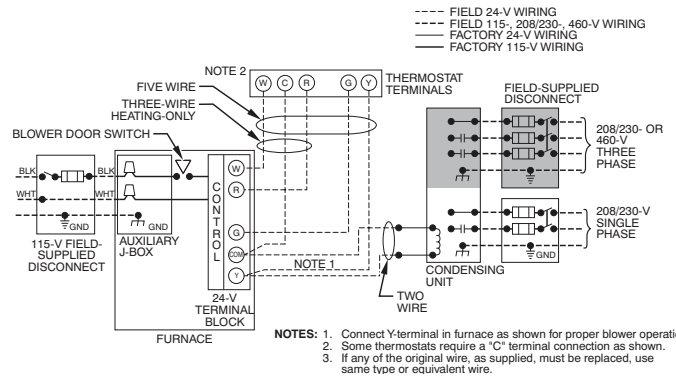
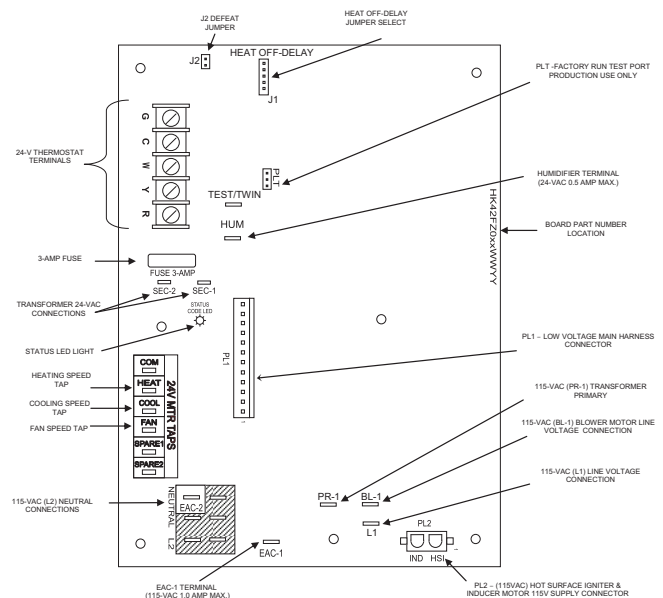
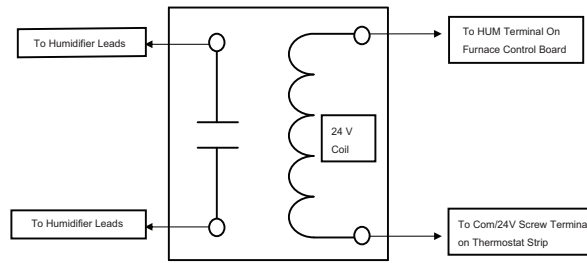

Fig. 33 – Typical Single-Stage Wiring Diagram
Fig. 37 – Example of Single Stage Furnace Control
Fig. 38 – Field-Supplied Isolation Relay for Humidifiers with Internal Power Supply
See Fig. 33 for field wiring diagram showing typical field 115-v wiring. Check all factory and field electrical connections for tightness.
- Connect power cord power and neutral leads to furnace power leads as shown in Fig. 33.
- Connect field power and neutral leads to furnace power leads. as shown in Fig. 33.
Make field 24-v connections at the 24-v terminal strip. See Fig. 37. Connect terminal Y as shown in Fig. 33 for proper cooling operation. Use only AWG No. 18, color-coded, copper thermostat wire.
could cause this fuse to blow. If fuse replacement is required, use ONLY a 3-amp. fuse of identical size. See Fig. 37.
(See Fig. 38 and Fig. 37)
NOTE: If the humidifier has its own 24 VAC power supply, an isolation relay may be required. Connect the 24 VAC coil of the isolation relay to the HUM and COM/24V screw terminal on the control board thermostat strip. See Fig. 38.